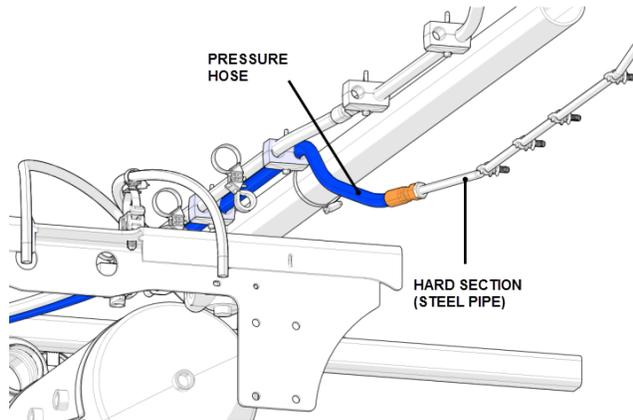

FIGURE 15
- Locate the discharge hose (pressure) on curbside of the rear wheel well. It connects to a hard section (steel pipe) which is from the steering pump (fig.15).